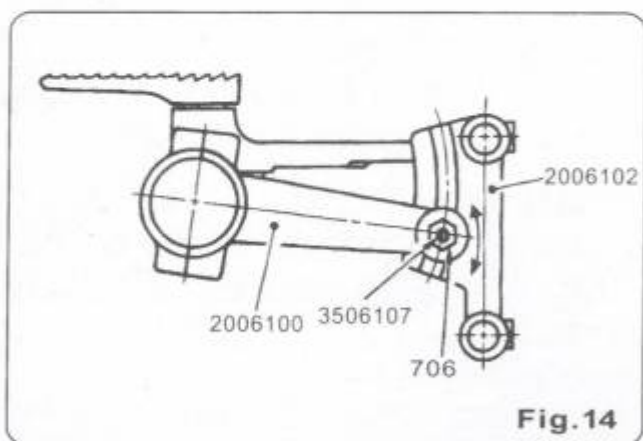

Fig. 14
The stitch length adjustable in the range of 7 to 16mm. Your machine is set at the standard stitch length of 10mm in our plant before shipment. To adjust, loosen nut (706) of feed regulating stud (3506107) which connects feed rocker (2006102) and feed rod (2006100), and move feed regulating stud vertically, as shown in (Fig. 14). Bringing down the stud makes the stitch longer and moving it up shorter. After the adjustment, never forget to tighten the nut.